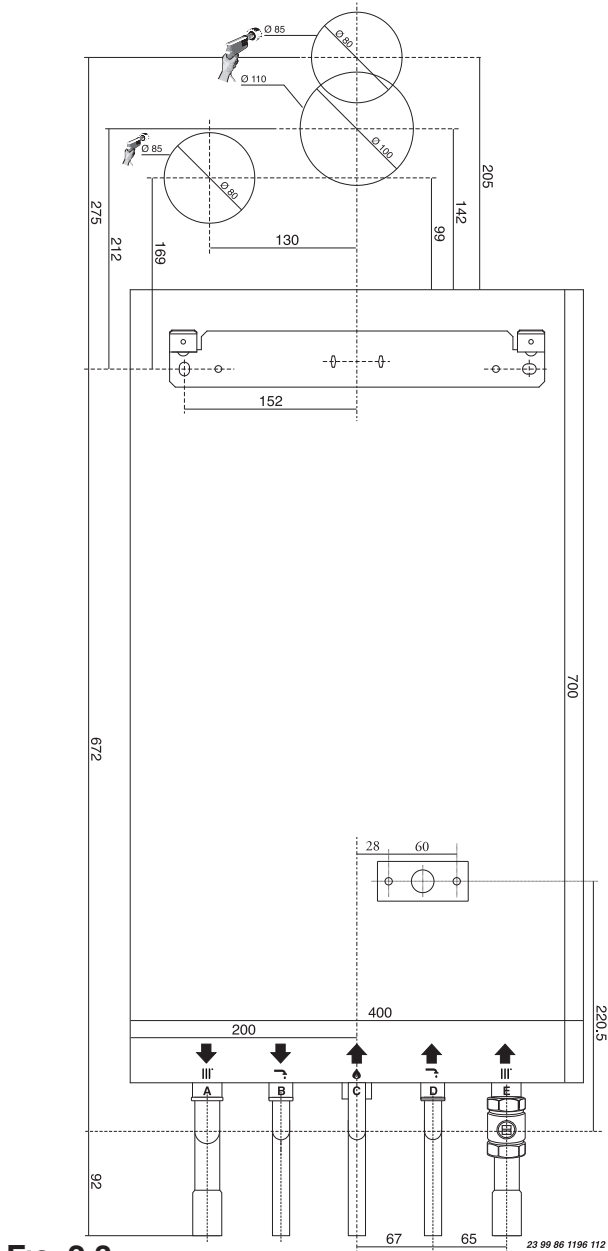

Fig. 2.3
2.5.2. Position the appliance on the hanging bracket and connect the connection kit to the boiler connections. (see also Sections 2.7 Gas Connections, 2.8 Water Connections & FIG. 2.3).